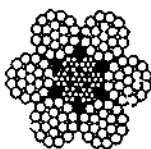

Figure 7-44. Independent Wire Rope Core
**Independent Wire Rope Core (IWRC)** (Figure 7-44) consists of a 6 x 7 stranded steel wire rope with a 7 wire centre strand. Its greatest use is where ropes are subjected to severe pressure while running over sheaves or winding on to drums. This core should be used when rope operates in temperatures damaging to natural or man-made fibres. It provides additional strength and less stretch with less resilience.